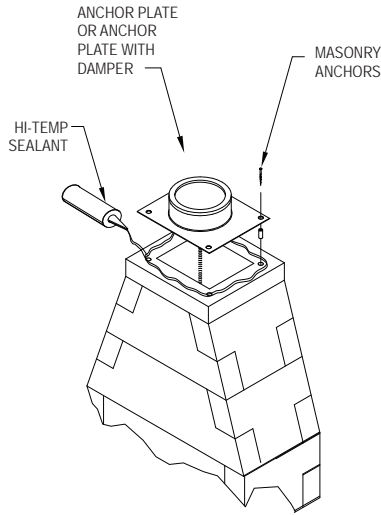

Figure 24
the masonry flue opening. If a Damper is used, make sure nothing interferes with the damper plate movement. Seal the Anchor Plate in place with a high temperature sealant. Secure Anchor Plate with (4) 2" x 1/4" masonry anchors (*Fig. 24*).